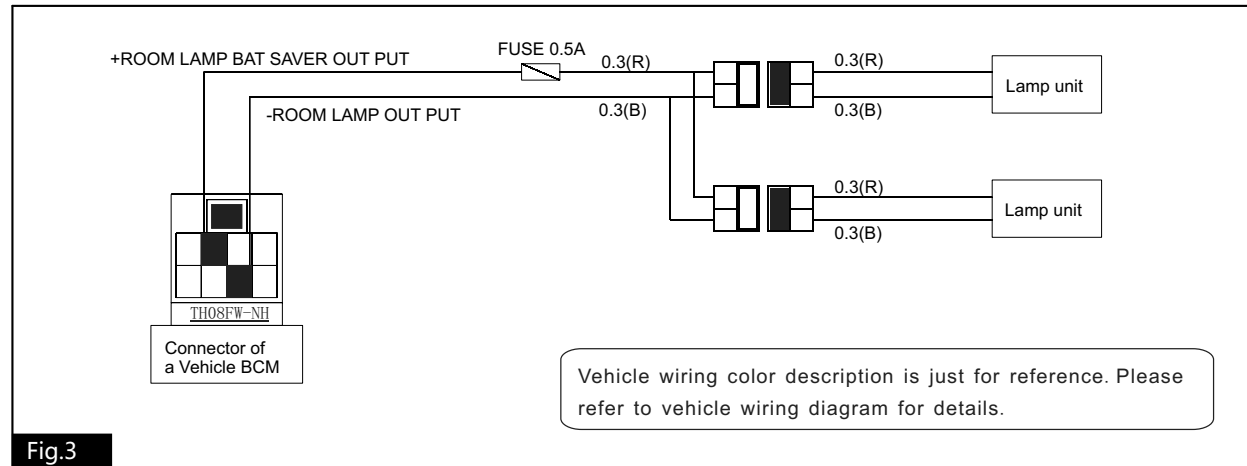
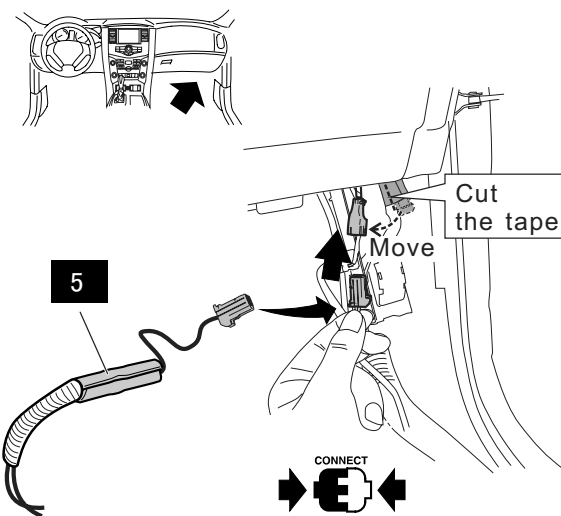
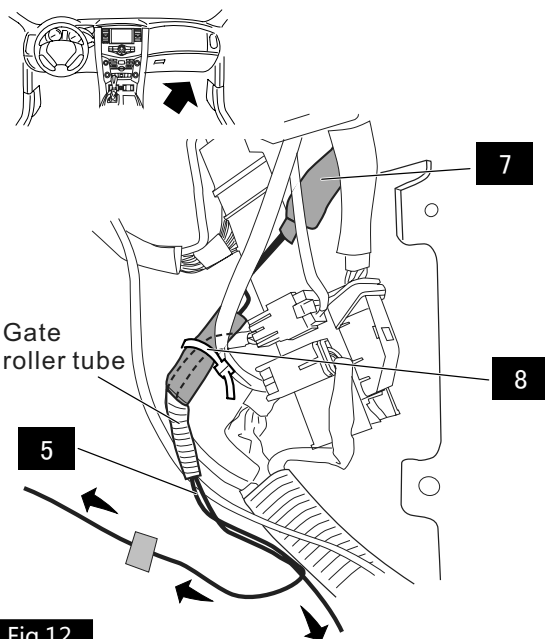

Fig.3
Fig.11
Fig.12
(2) Cut the tape of vehicle connector at this position and move it shown in Fig. 11. Attach the Harness **5** to vehicle harness at the position shown in Fig. 12. Refer to Fig. 3 on page 4.
(3) Wrap the connected connector with one piece of Urethane Foam Tape **7**. Shown in Fig. 12.
(4) Attach the fuse of the Harness **5** to vehicle harness at the position shown in Fig12, using the tie wrap **8**. (1piece)